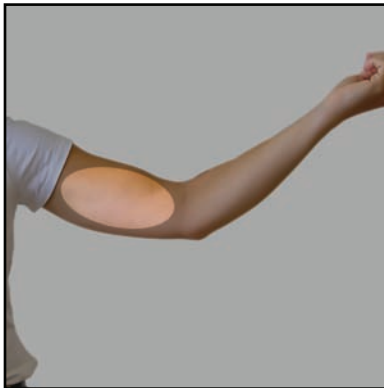

Figure 5: Location of brachial artery
- a. Palpate the brachial artery between the bicep and the tricep (Figure 5).